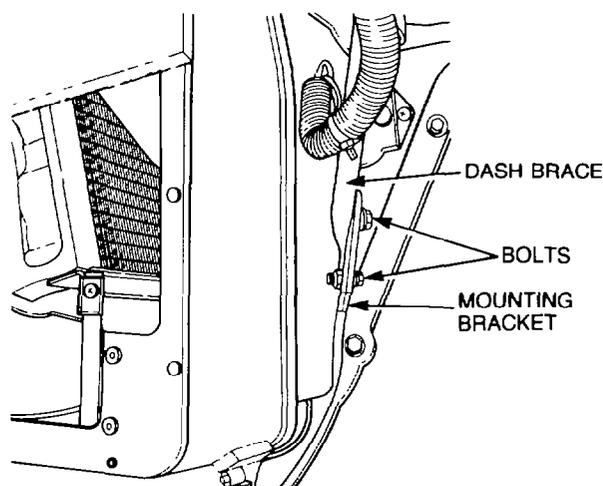

Figure 326 — Air Conditioner Mounting Bracket
- l. Remove the two bolts, washers and nuts securing the air conditioner unit mounting bracket to the dash panel brace (see Fig. 326).